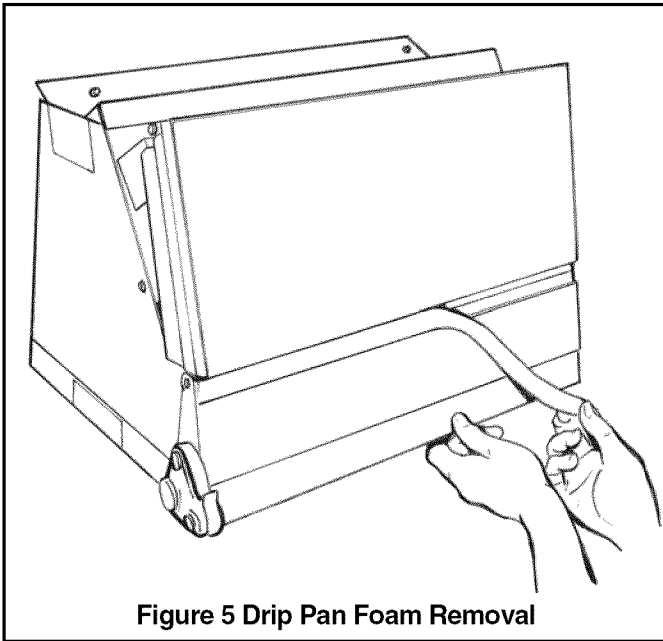

Figure 5 Drip Pan Foam Removal
- a. **For maximum efficiency**, the horizontal drip tray should be removed. See Figures 5, 6 and 7. Tray removal requires that the coil be removed by sliding the coil out on the coil channel supports. For the TEE3C40-65 units, there is a coil support tab at the top of the coil connected to the case that must be removed first. Remove 1 inch insulation strip covering the lip of the drip tray. The tray is detached by removing the two screws at the drain pan. Remove the two screws holding the two brackets at the top of the coil. Remove drip tray by gently breaking the seal between the drip tray and drain pan.
- a. **For maximum efficiency**, the horizontal drip tray should be removed. See Figures 5, 6 and 7. Tray removal requires that the coil be removed by sliding the coil out on the coil channel supports. For the TEE3C40-65 units, there is a coil support tab at the top of the coil connected to the case that must be removed first. Remove 1 inch insulation strip covering the lip of the drip pan. The tray is detached by removing the two screws at the drain pan and the two screws holding the two brackets at the top of the coil. Remove drip tray by gently breaking the seal between the drip tray and drain pan.